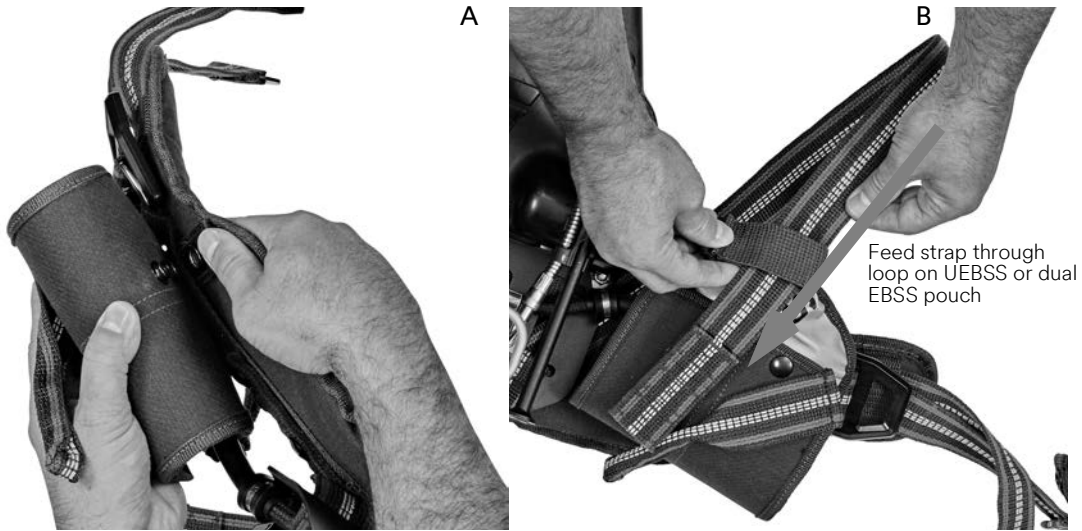

Figure 2-22 A) Fastening the snaps attaching the UEBSS or dual EBSS pouch to the waist pad. B) Attaching the waist-to-shoulder straps.
- c Locate the strap on the back of the pouch and slide it under the waist pad webbing and fasten the snaps. See picture A in Figure 2-22.
- d Feed the waist-to-shoulder strap through the loop in the UEBS or dual EBSS pouch. See picture B in Figure 2-22.